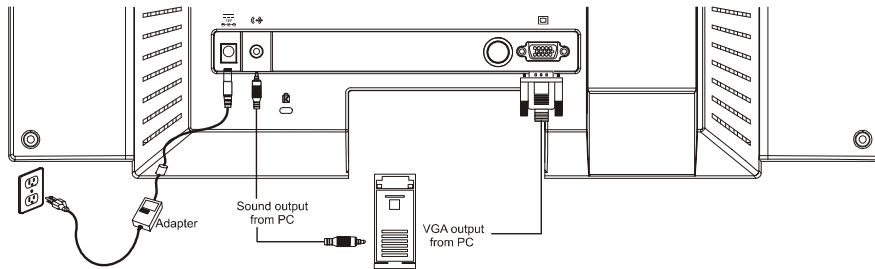

Figure 1-6
2. Connect one end of the signal cable to the LCD Monitor's VGA port.(See Fig 1-6)